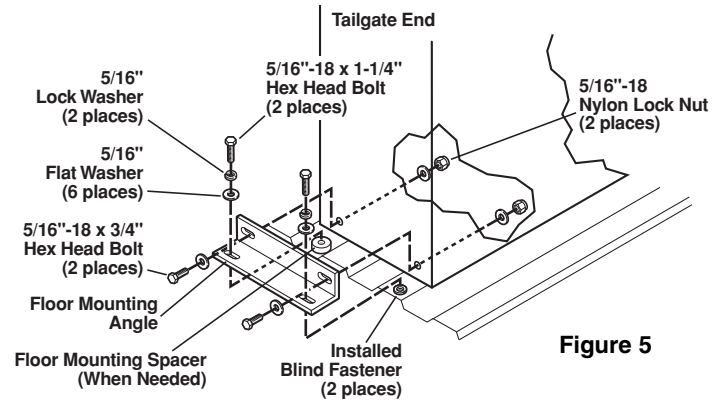

Figure 5
Step 4: ATTACH FLOOR MOUNTING ANGLE (see Figure 5)
- Install Floor Mounting Angle per Fig. 5.